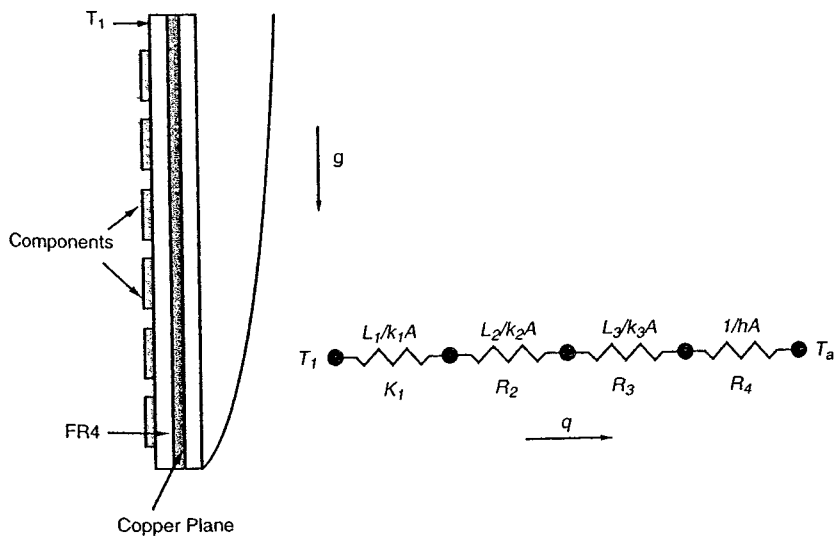
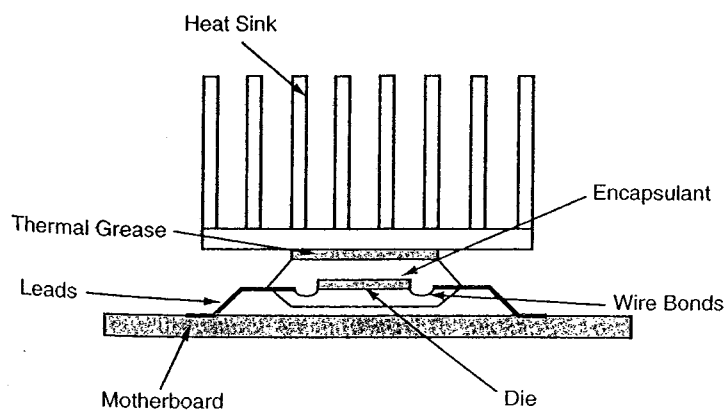

Figure 2
Figure 3
5. Consider the chip package with heat sink shown in the Figure 3 below. The thermal resistance of the heat sink is obtained from a vendor catalog and is specified as 1.0 K/W. The silicon die is 1cm x 1cm and is 1 mm thick. The overall package size is 2 cm x 2 cm. The package is 5mm thick and the mold material has a thermal conductivity of 0.8 W/mK. The package dissipates 2 W. The thermal interface material is 0.2 mm thick and has a thermal conductivity of 1.5 W/mK. The air gap between the package and printed board is expected to be 0.1 mm thick. The board has a construction similar to that in Figure 2. Thermal conduction through the leads is assumed to be negligible. Ambient air temperature is 45°C. Compute the value of the die temperature, if the thermal resistance from PWB to the air is known to equal 10 K/W.